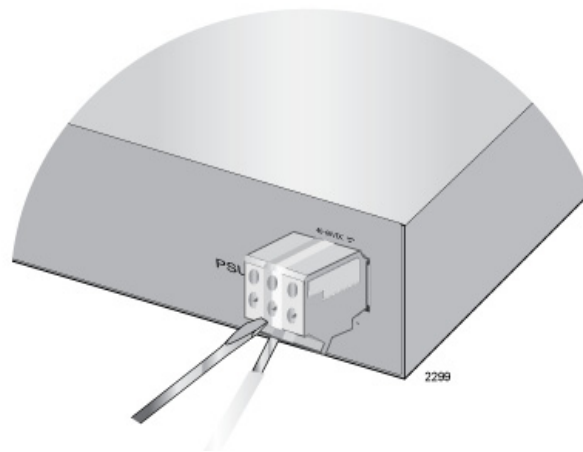

Figure 43. Inserting Wires into the DC Terminal Block
4. Insert the power supply ground wire into the middle connector of the DC terminal and tighten the connection with a flathead screwdriver, as shown in Figure 43 on page 99.